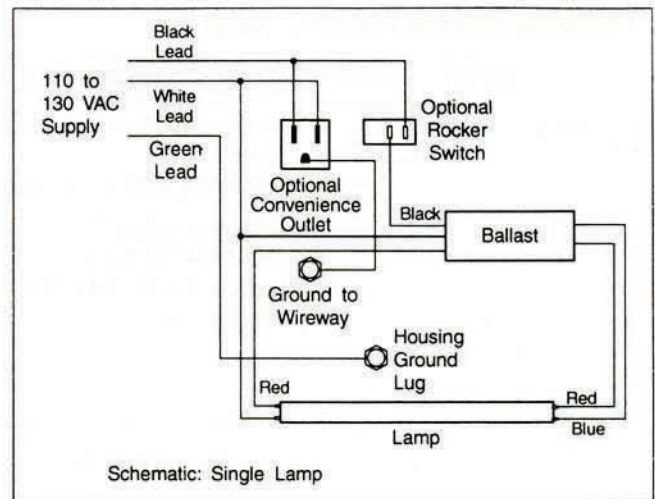
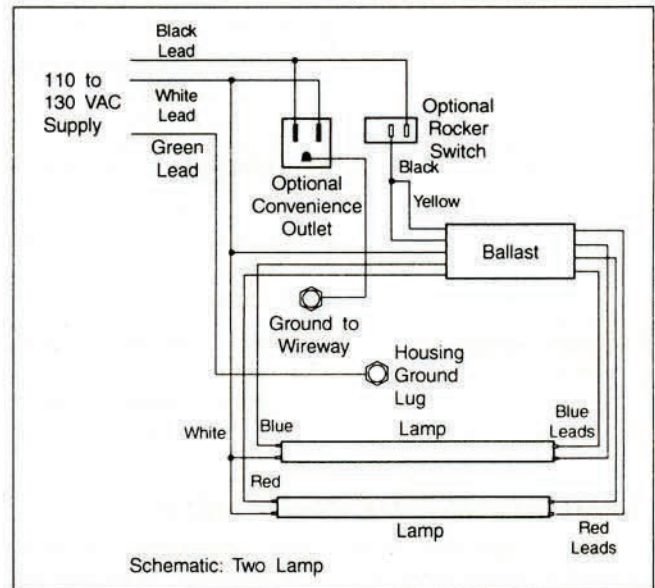

Figure 8.
Figure 9.
- Connect the power supply wiring as shown in Figure 8 for units with a single lamp or Figure 9 for units with two lamps.